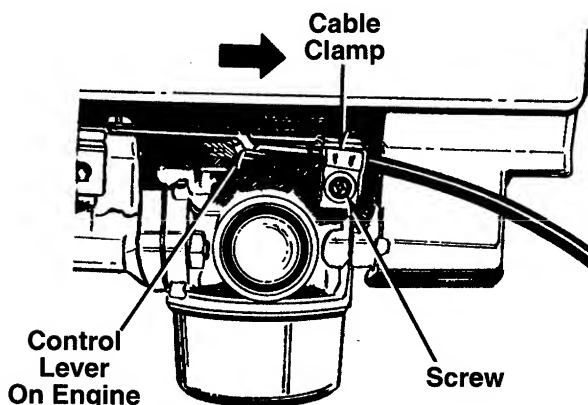

FIGURE 19B.—Tecumseh Engines
**NOTE:** If you have a Tecumseh engine, simply loosen the screw shown in figure 19B so the cable will move freely beneath the clamp. It is not necessary to remove the screw and clamp completely.